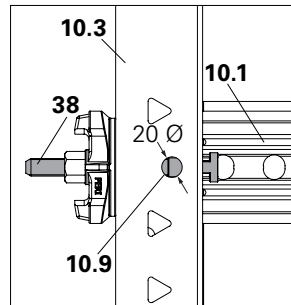

Fig. A4.09a
1. Install the HSA corner connector DW 15 (38) through the hole (10.9) of panel HSA (10) into the anchor strut (10.1) of other panel HSA (10).
2. Put the wingnut counterplate DW 15 (30) at the other end and hammer it to ensure that it is perfectly tightened with the anchor strut (10.1)
Once in position, there should not be any gap between HSA corner connector DW 15 (38) and panel frame (10.3). (Fig. A4.09a)